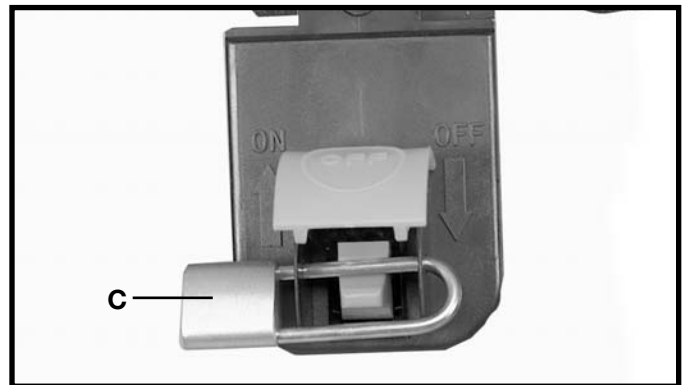

Fig. 96
**IMPORTANT:** When the machine is not in use, the switch should be locked in the "OFF" position to prevent unauthorized use, using a padlock (C) Fig. 96 with a 3/16" diameter shackle.